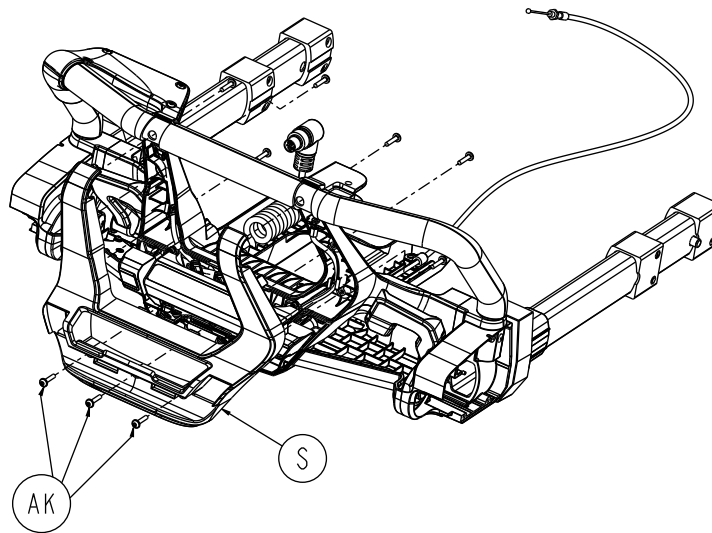

Figure 27 –
19. Using a T20 Torx driver, remove the three round washer head tapping screws (AK) from the foot end enclosure (S) (Figure 27). Remove the front foot end housing. Save all parts.